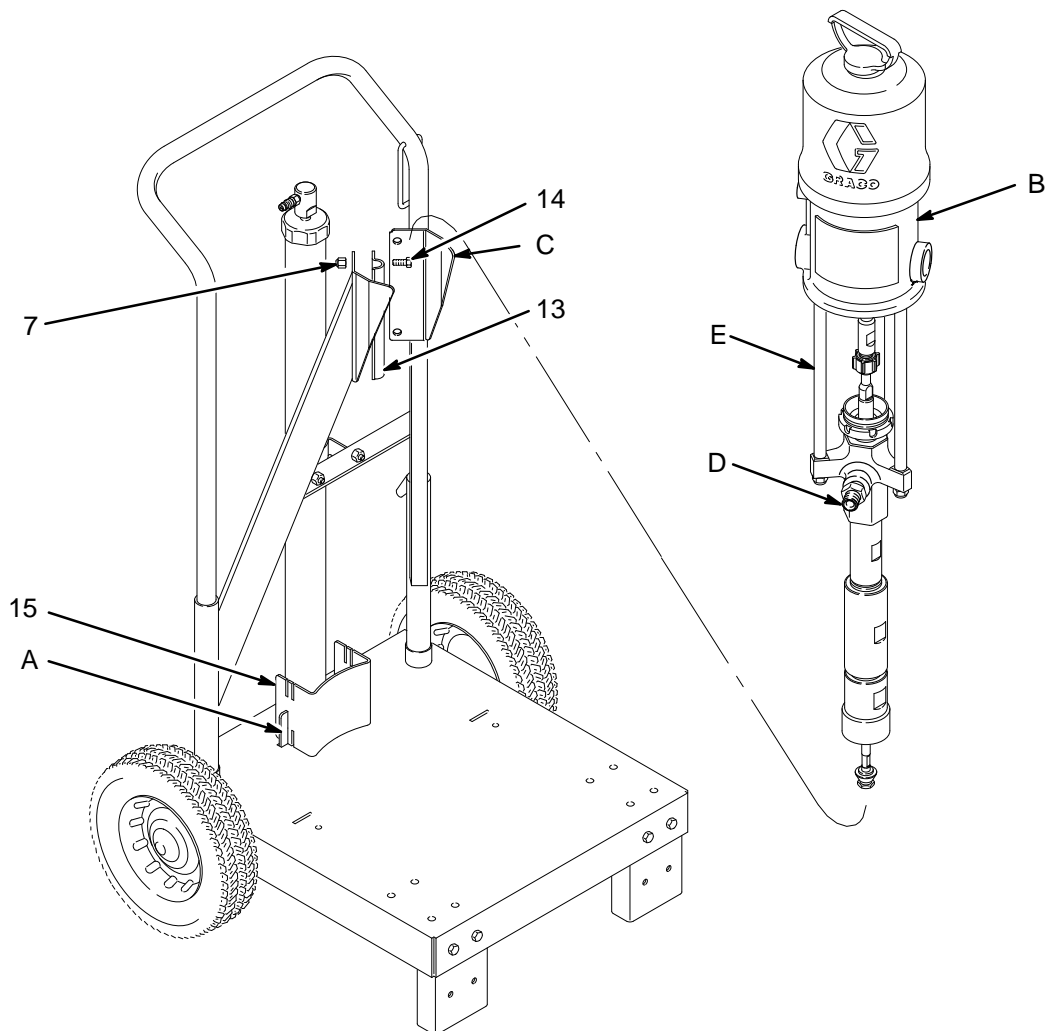

Fig. 1
Refer to Fig. 1. The pail stop (15) and the clamps (13), screws (14) and nuts (7) used to mount the pump are shipped loose.
1. Slide the pail stop (15) onto the uprights (A) at the rear of the cart. Adjust the stop to the desired position.
2. Set the pump (B) onto the cart so the baseplate of the air motor rests on the pump supports (C). Orient the pump fluid outlet (D) as shown in Fig. 1. Two of the pump tie rods (E) will rest against the pump supports (C). Hold the pump in this position to keep it from tipping.
3. Fasten the clamps (13) around the two tie rods. Insert the four screws (14) through the clamps from the front, and secure from the rear using the four nuts (7).